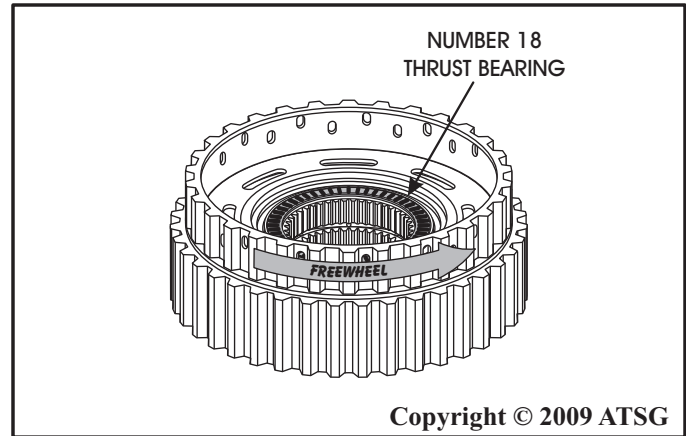

Figure 191
14. Ensure that the number 18 thrust bearing is still in place on the pre-assembled forward sprag assembly, as shown in Figure 191.
15. Ensure that the pre-assembled forward sprag assembly free wheels counter-clockwise and locks clockwise, as shown in Figure 191.